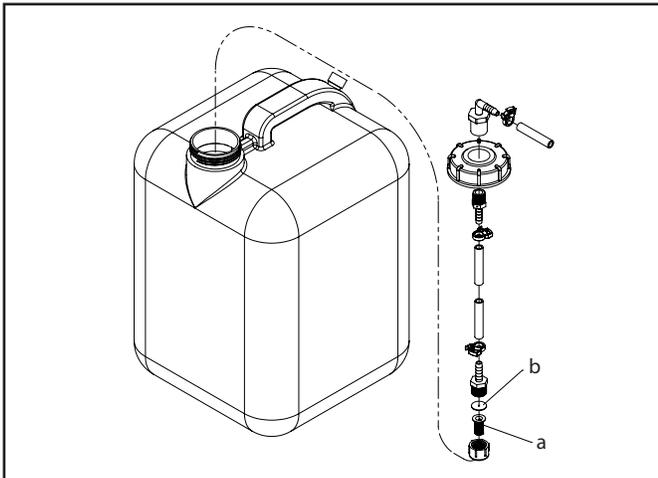

Figure 6: Foamer Tank Assembly
1. Liquid Strainer (a) (Figure 6): The liquid strainer is located in the foam solution tank on the end of the suction hose. It should be rinsed after each use or on a daily basis.
2. Orifice Disk (b) (Figure 6): The orifice disk is located behind the strainer on the end of the suction hose. Inspect the orifice disk occasionally to ensure that there are no debris or dirt plugging the disk's circular hole. **WARNING:** Do not operate the foam marker without this orifice disk. Such incomplete operation will result in damage to the compressor and will void the warranty.
|                       | Plugged orifice disk or strainer on the end of the suction hose       | Clean or replace the orifice disk or stainer (See figure 6, page 7)            |
| Low Foam Rate         | Partially plugged orifice disk or strainer on the end of suction hose | Clean or replace the orifice disk or stainer (See figure 6, page 7)            |